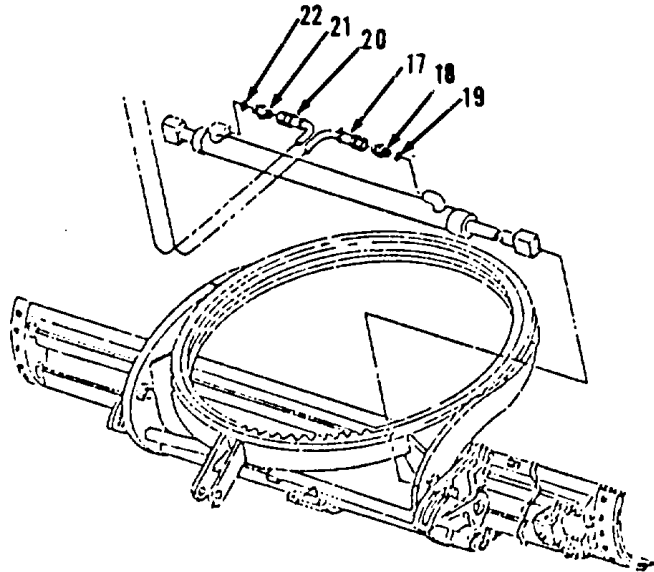
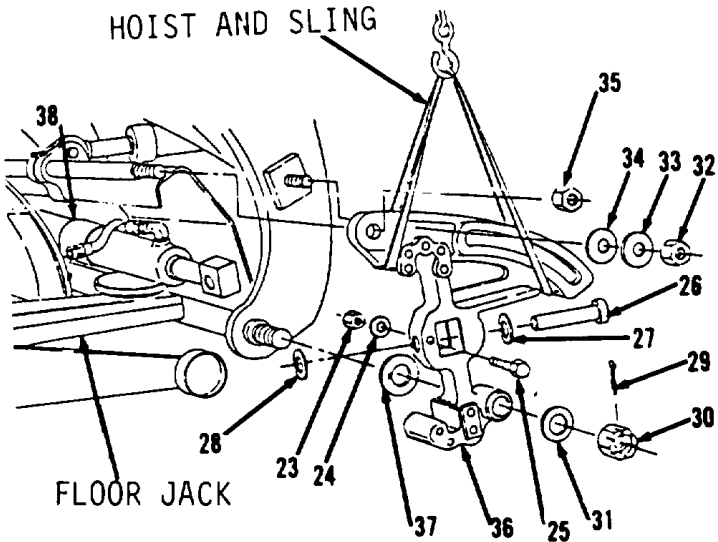

Figure 10-142.
Figure 10-143.
- 13. Disconnect hose assembly (17, Figure 10-142).
- 14. Remove connector (18) and preformed packing (19). Discard preformed packing (19).
- 15. Disconnect hose assembly (20).
- 16. Remove connector (21) and preformed packing (22). Discard preformed packing (22).
- 17. Remove nut (23), washer (24), bolt (25), pin (26) and washers (27 and 28, Figure 10-143).